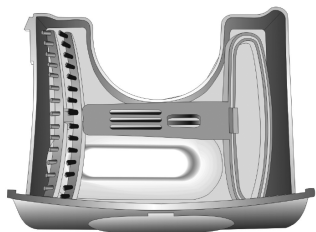

fig. 11
9. Clean the hand protection plate, hard sofa brush, lint brush, fabric brush, pant press and rotatable hanger in soapy water. Dry well. Store in accessory box. See fig 11.